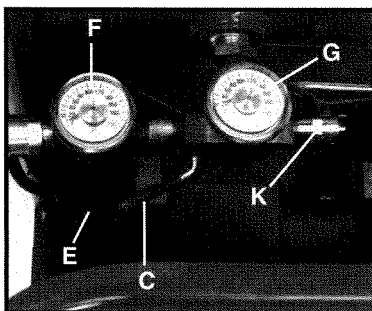

Fig. 3
ON/AUTO - OFF Switch (C) Fig. 3: Turn this switch ON to provide power to the automatic pressure switch and OFF to remove power at the end of each use.
Regulator (E) Fig. 3: The air pressure coming from the air tank is controlled by the regulator. Turn the regulator knob clockwise to increase pressure and counterclockwise to decrease pressure. To avoid minor readjustment after making a change in pressure setting, always approach the desired pressure from a lower pressure. When reducing from a higher to a lower setting, first reduce to pressure less than that desired, then bring it up to the desired pressure. Depending on the air requirements of each particular accessory, the outlet regulated air pressure may have to be adjusted while operating the accessory.
Outlet Pressure Gauge (F) Fig. 3: The outlet pressure gauge indicates the air pressure available at the outlet side of the regulator. This pressure is controlled by the regulator and is always less than or equal to the tank pressure. See "Operating Procedures".
Tank Pressure Gauge (G) Fig. 3: The tank pressure gauge indicates the reserve air pressure in the tank.
Safety Valve (K) Fig. 3: If the pressure switch does not shut off the air compressor at its cutout pressure setting, the safety valve will protect against high pressure by “popping out” at its factory set pressure (slightly higher than the pressure switch cut-out setting).